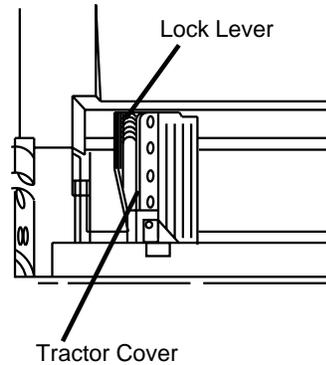

Figure 9-5. Model 602 Paper Lock Levers
5. Pull up on both of the lock levers to release the tractors, and swing open the tractor covers. See Figure 9-5. Position the right-hand tractor for the width of the paper you are loading.